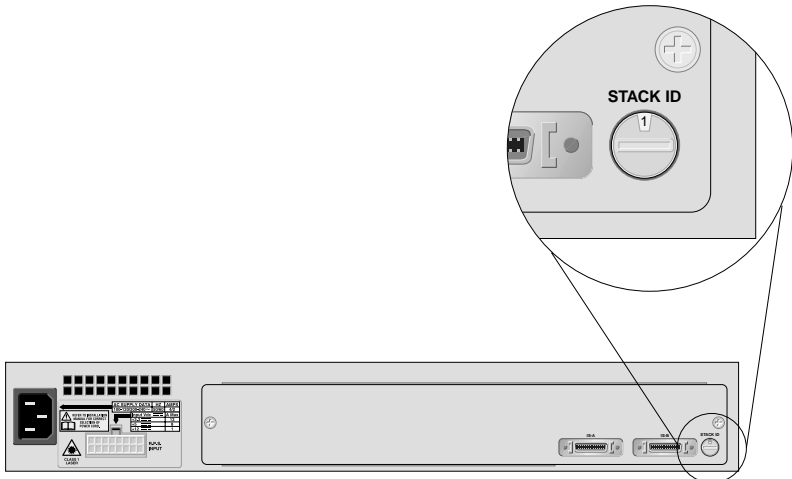

Figure 2 Stack ID Switch
5. For an AT-8316F or AT-8324 switch that will not be part of a stack, check the setting of the Stack ID switch on the back panel of the switch (shown in Figure 2). You can set the switch to any setting (1 to 8), but not 0 (zero).
8. For an AT-8316F or AT-8324 switch that will not be part of a stack, check the setting of the Stack ID switch on the back panel of the switch (shown in Figure 2). You can set the switch to any setting (1 to 8), but not 0 (zero).